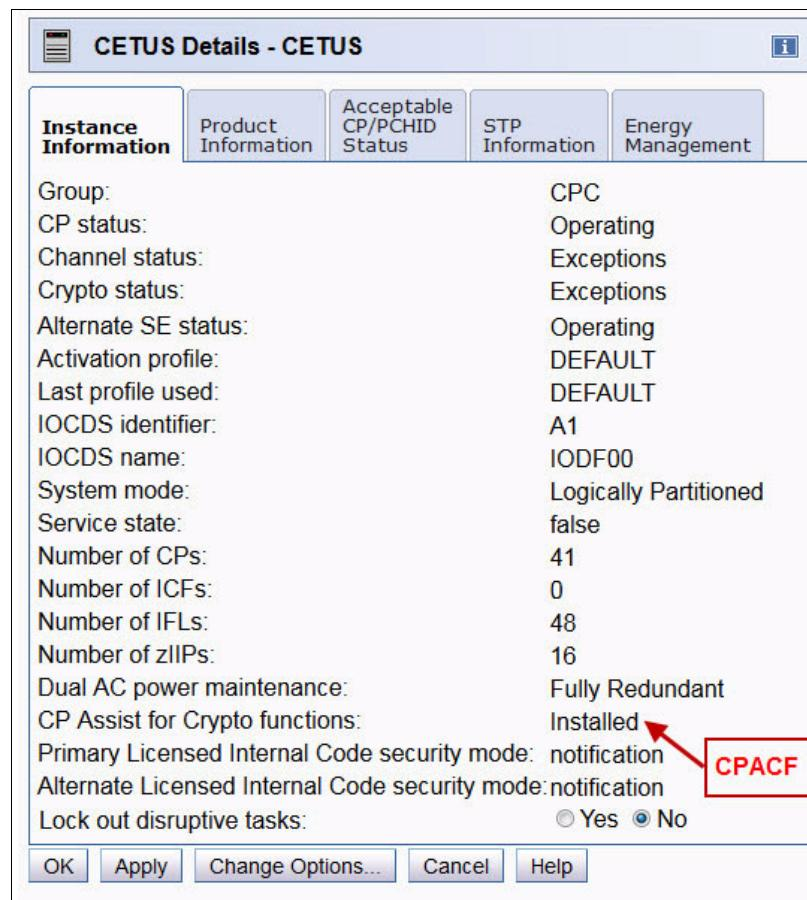

Figure 10-1 System details: CPACF installed
1. Open the **System details** menu of the CPC at the SE workplace. The system details window opens (Figure 10-1).